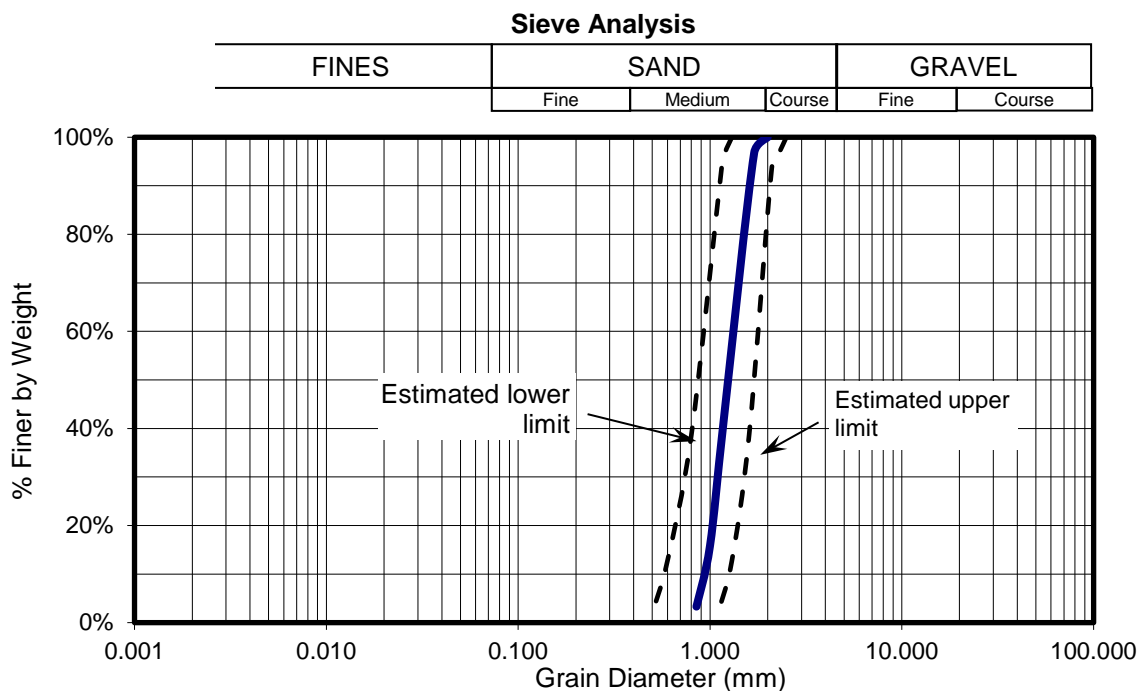

Figure 5: Estimated grain size distribution of backfill sand
7. **Backfill Material** – The backfill material will be sand provided by competition organizers on site. The sand will be a clean, dry, rounded to subrounded sand with grain size as specified in Table 1 and Figure 5. The backfill material must be used as-is: no water, additives, or chemical stabilizers may be placed in the backfill material.
Competition organizers will make reasonable efforts to ensure the competition backfill materials meet the specifications in Table 1 and Figure 5. Teams will be allowed to examine a sample of the competition backfill at the captains' meeting. No backfill samples may be removed from the meeting room. Teams may modify their wall design at this time if they desire. See section 11 below.